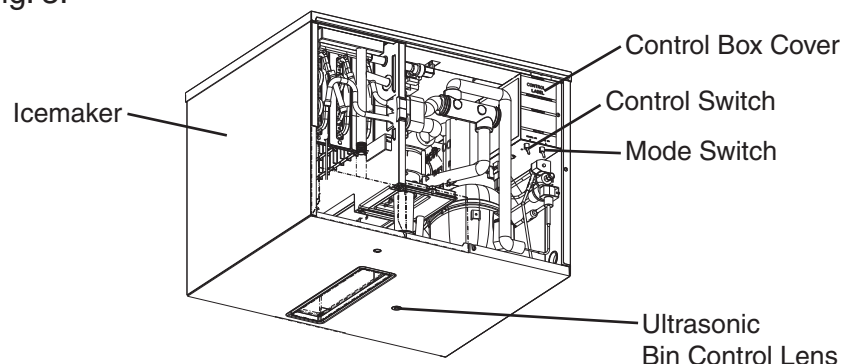

Fig. 3
- 1) Remove the front panel. Move the control switch to the "OFF" position, then remove the top panel, right side panel, and control box cover. See Fig. 3.
- 3) Place the mode switch in the "ICE" position, then move the control switch to the "ON" position. See Fig. 3.
- 4) **Bin Empty Diagnosis:** As water begins to fill the water tank (1-min. fill), place an object 5" to 7" (127 to 178 mm) away from the UBC lens. See Fig. 3. CB 5-sec. delay timer starts. "BIN CLS" LED turns on. CB 5-sec. delay timer terminates, CB 15-sec. delay timer starts. CB 15-sec. delay timer terminates and the icemaker shuts down. Remove the object from the UBC lens. CB 30-sec. delay timer starts. CB 30-sec. delay timer terminates, CB "BIN CLS" LED turns off, and the icemaker restarts. Note: In some cases, removing the UBC sensor and rotating the UBC lens up and down, provides better access when troubleshooting.
- 5) **Bin Full Diagnosis:** Place an object 5" to 7" (127 to 178 mm) away from the UBC lens. See Fig. 3. If shut down cycle does not start, confirm CB "BIN CLS" LED turns on. If not, confirm object placement. If object placement is correct, replace UBC sensor and CB. If CB orange "BIN CLS" LED turns on and shut down cycle does not start, see "II.B.1.4) 1-min. Fill Cycle."